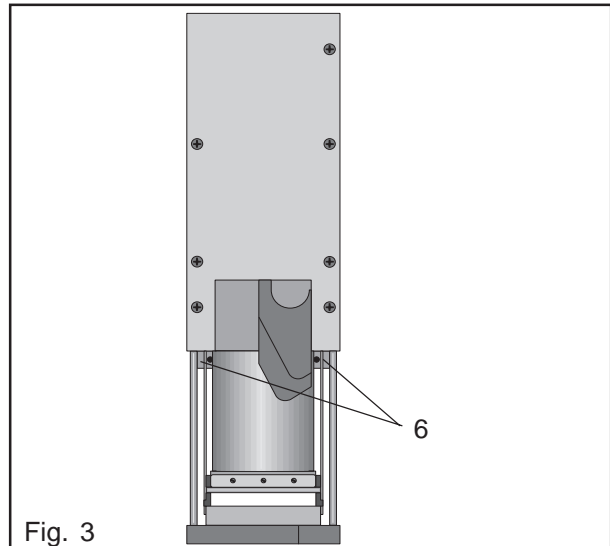

Fig. 3
- Remove the two screws (6). (Fig. 3)